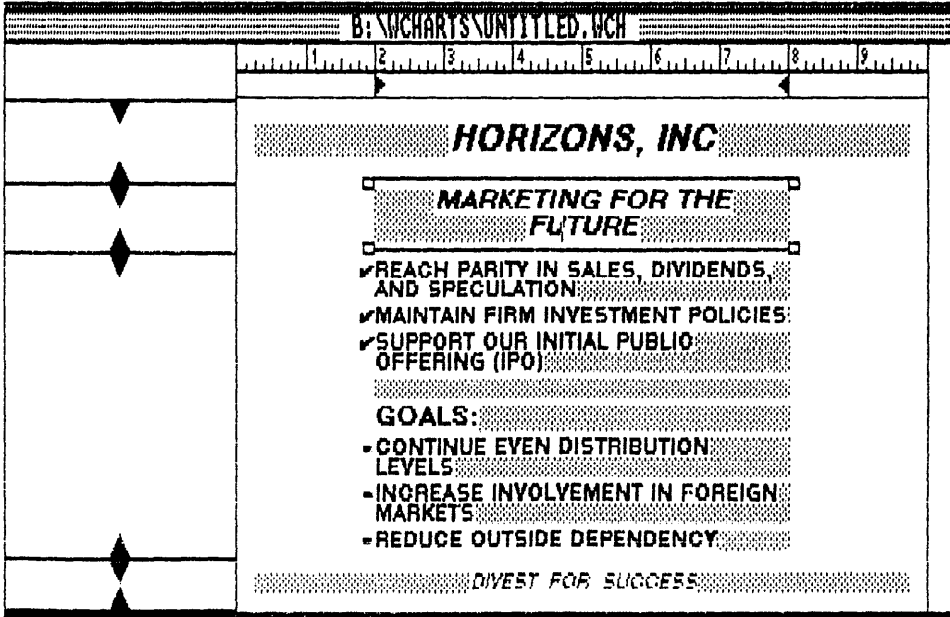

Fig. 6-8. Replacing the Toolkit with the Zone Markers gives you control over the position of the template's zones.
**Zone Markers/Toolkit** alternates between Zone Markers and the Toolkit being visible on the GEM WordChart screen. The Zone Markers are a group of sliders that are used for positioning and sizing the Text Template's zones (Fig. 6-8). These sliders are dragged with the mouse for moving them. The Toolkit, on the other hand, contains several tools, which can be used for directly controlling the appearance of the typed text. A description of the Toolkit's tools is at the conclusion of these menu/command definitions.